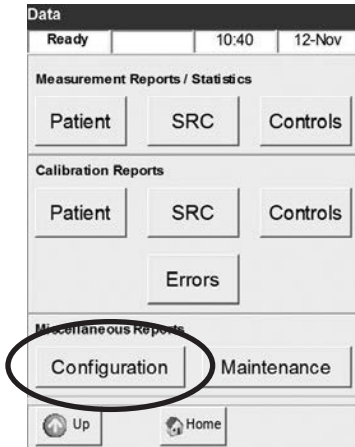

Fig. 7-55 Configuration Report
- To print a configuration report, select **<Configuration>** in the **<Data>** screen (Fig. 7-55).
- To print a maintenance log, select **<Maintenance>** in the **<Data>** screen (Fig. 7-55).